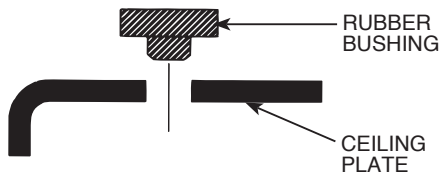

FIGURE 4. Rubber Bushings
**A.** Install the (3) rubber bushings into the top of the ceiling plate by inserting small side of the rubber bushing into the three holes in the ceiling plate. See Figure 4.